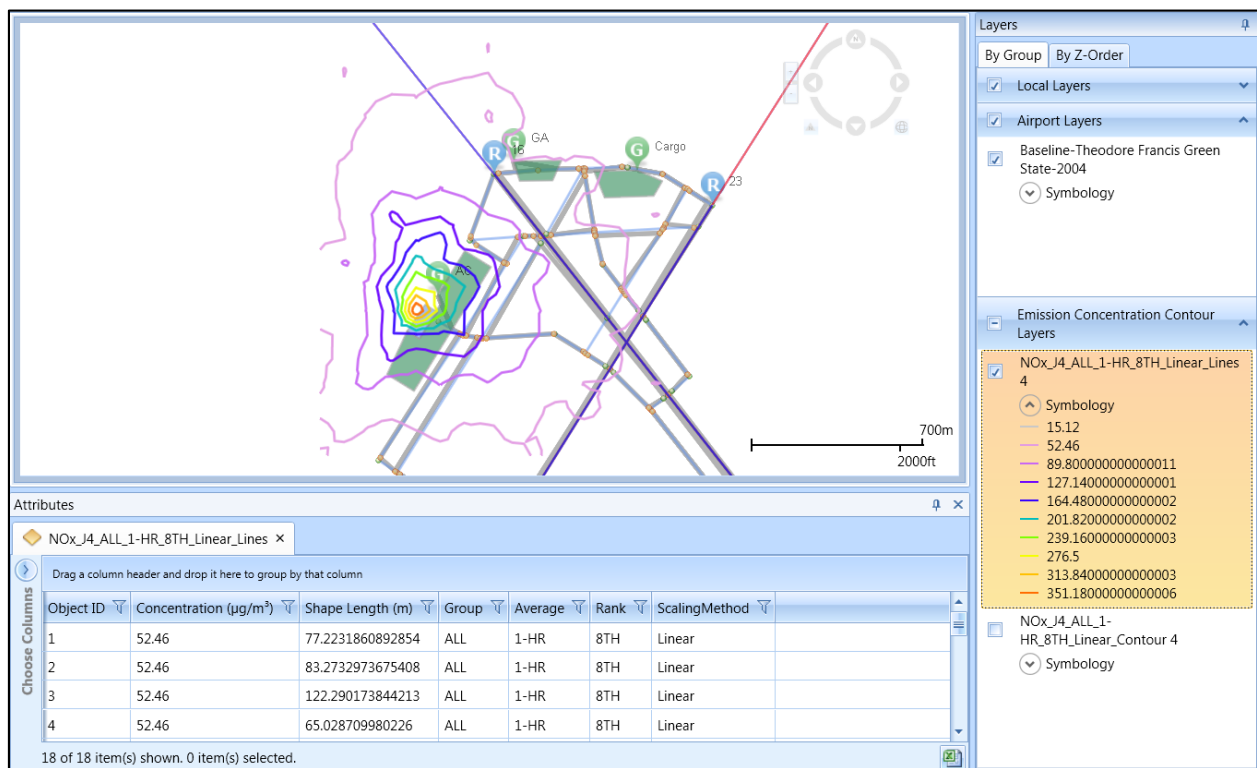

Figure 5-38 Sample Concentration Contour Layer with Attributes – shown with Airport layers
6. Click *OK* to generate and display the concentration contour layers on the map (Figure 5-38) and in the *Layers* manager.
The following attributes are available for all concentration contour layers: object ID, concentration, shape length, shape area, group, average, rank, scaling method, and concentration (Figure 5-38). See Appendix B.3 for descriptions of the attributes.